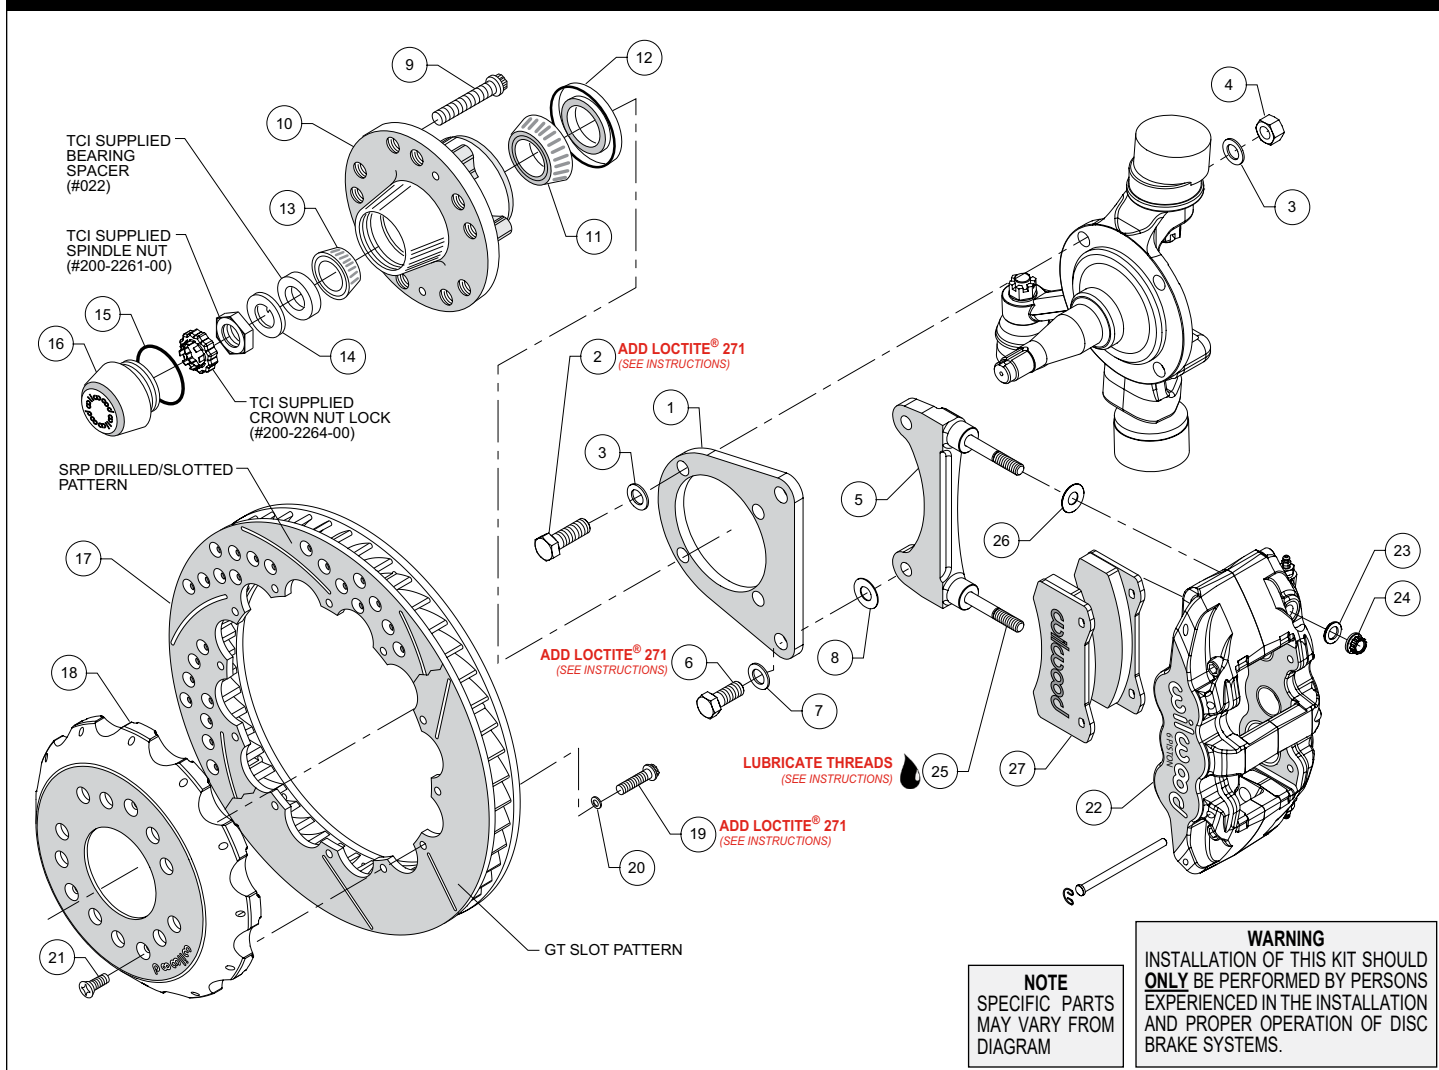
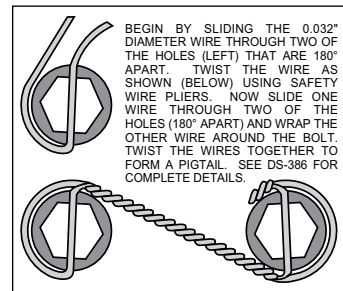

Figure 1. Typical Installation Configuration
Figure 3. Safety Wire Diagram
NOTE: Numbers in parenthesis refer to the parts list and Figure 1 on the preceding pages.
- Orient the flat bracket (1) as shown in Figure 1, and Photo 1, and install using bolts (2), washers (3), and nuts (4). **NOTE:** The two lower mount bolts thread directly into the steering arm. Temporarily tighten the mounting bolts. **NOTE:** The bracket must fit squarely against the spindle face. Inspect for interference from casting irregularities, machining ridges, burrs, etc. After the bracket alignment has been checked, remove the bracket mounting bolts (or nuts) one at a time and apply red *Loctite*® 271 to the threads. Torque bolts to 77 ft-lbs.
- The radial mount caliper bracket (5) should initially be installed with clean, dry threads on the mounting bolts. Orient the bracket as shown in Figure 1, and Photo 2, and install using bolts (6), and washers (7). Initially place one .033" thick shim (8) on each bolt between the flat bracket (1) and radial mount caliper bracket (5), Figure 1. Temporarily tighten the mounting bolts. Later, after the caliper alignment has been checked, the mount bolts will be secured using red *Loctite*® 271.
- Install wheel studs (9) into the hub (10), Photo 3. Torque to 77 ft-lb. **NOTE:** There are two five lug patterns in the hub (5 x 4.50 and 5 x 4.75). Ensure the correct hub stud pattern is being used to fit the wheel application.
- Pack the large inner bearing cone (11) with high temperature disc brake bearing grease (available from your local auto parts store) and install into the backside of the hub (10), Photo 4.
- Install the grease seal (12) by pressing into the backside of the hub (10), flush with the end of the hub, Photo 4.
- Pack the small outer bearing cone (13) with high temperature disc brake bearing grease and install into hub (10), Photo 5. Slide the hub assembly onto the spindle. Install TCI supplied
•Screw dust cap (16) into hub (10), Photo 6. Friction created by the o-ring (15) on the dust cap keeps it from unscrewing. **NOTE:** The O.D. of the existing spindle washer may be larger than the I.D. of the dust cap not allowing it to seat against the hub face. Therefore, use the spindle washer (14) supplied with the kit.
•Orient the rotor (17) and the hat (18) as shown in Figure 1 and Photo 7. Attach rotor to hat using bolts (19) and washers (20). Apply red *Loctite*® 271 to the bolt threads and torque to 155 **in-lb** using a criss-cross pattern. For an added measure of security, the bolts may be safety wired using standard 0.032 inch diameter stainless steel safety wire as shown in Figure 3. Please refer to Wilwood's data sheet DS-386 (available at www.wilwood.com/Pdf/DataSheets/ds386.pdf) for complete safety wire installation instructions.
•**NOTE:** This kit contains distinct right and left hand calipers that must be mounted in a specific direction, as described below. Lubricate the caliper mounting studs (25) with lightweight oil. Initially place one .030" thick shim (26) on each stud between the caliper and the bracket, as shown in Figure 1 and Photo 9. Mount the caliper (22) onto the bracket (5) using lock nuts (24) and washers (23), Figure 1. Ensure that the caliper is mounted so the largest pistons are at the rotor exit end of the caliper, in relation to the direction of rotor rotation. Temporarily tighten the lock nuts and view the rotor through the top opening of the caliper. The rotor should be centered in the caliper, Photo 10. If not, adjust by adding or subtracting shims (8) between the flat bracket and the radial mount bracket. Always use the same amount of shims on each of the two mounting bolts. Once the caliper alignment is correct, remove the radial mount bracket bolts one at a time, apply red *Loctite*® 271 to the threads, and torque to 60 **ft-lb**.
•Remove the two pad retaining pins from the caliper by carefully popping out the pin retaining clips and sliding out the pins. Insert the brake pads (27) into the caliper from the bottom, Figure 1, with the friction material facing the rotor and secure the brake pads in place with the pad retaining pins and clips, Photo 11. Reinstall the